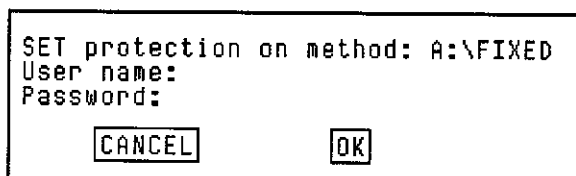

Figure 3-17. Set Protection Window
2. Click on **<Protect>** to display the Set Protection window, Figure 3-17.